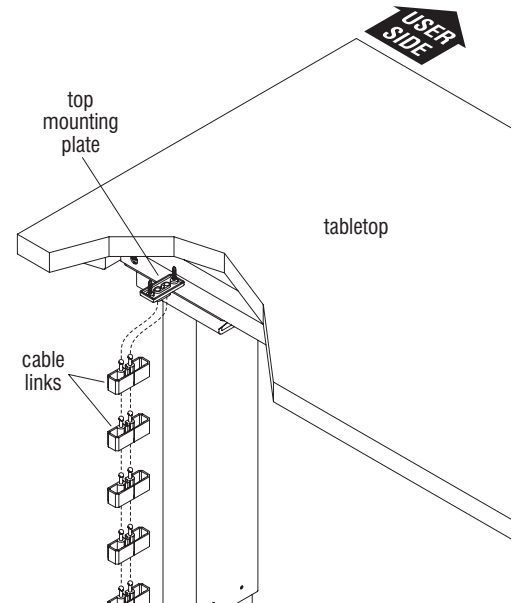

Figure 4
1. Position one cable link under the top mounting plate. Orient the link so that the power cord from the control box can be easily routed to the link wings. Snap the connector end of the link into the connector holes of the mounting plate. Continue snapping connector ends of each link into the receiving ends of the previous link until vertical cable manager assembly reaches the desired length (Figure 4 & Detail B).